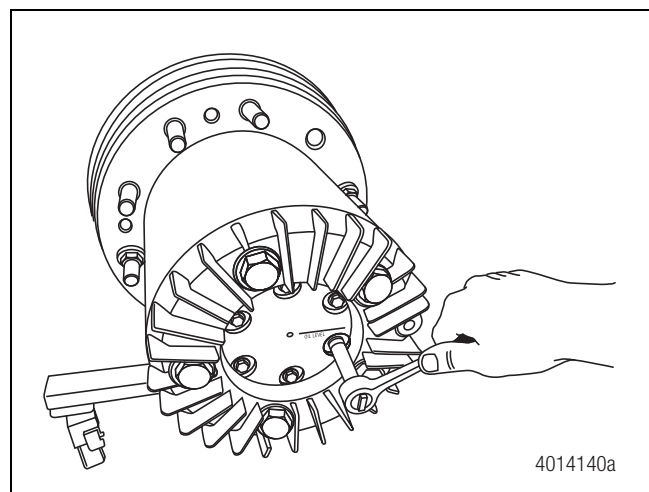

Figure 4.2
7. Use a wrench to remove the hub cover capscrews. Figure 4.2.